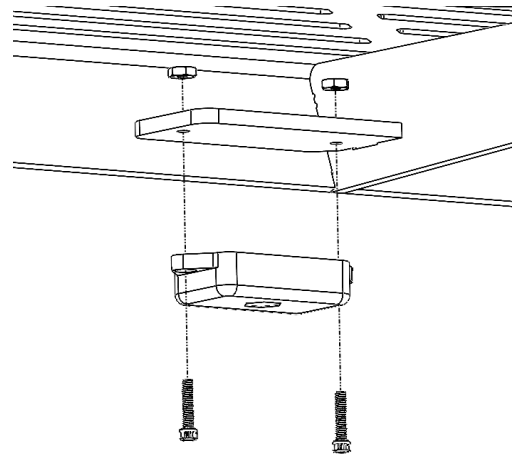

Figure 20: Rock Light Installation
- Using the hardware provided by Baja Designs, secure the rock lights to the rock light mounting tabs as shown in **Figure 20**. If the hardware doesn't fit through the Rock Light Mounting Tab hole, drill it out with a $\frac{11}{64}$ " drill bit.